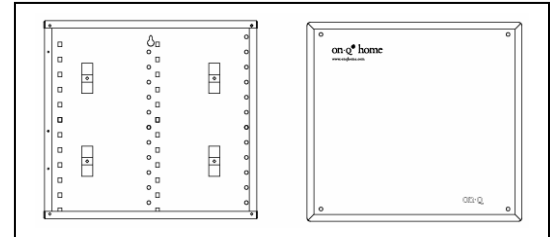

Figure 1
On-Q Home Service Center Enclosures (see *Figure 1*) centralize and protect components used to distribute telephone, data, media services, audio, security and control, and other low voltage wiring used throughout the house. The enclosure mounts onto a wall (surface mounting) or between the studs of a framed opening (recessed mounting) and is designed to accept various On-Q Home modules after installation. The On-Q Home Service Center Enclosures are UL listed as Communication Circuit Accessories. There are two (2) sizes of Value Line Enclosures; 12" (1267077) and 24" (364257).
The Service Center Enclosures include a gray powder coated steel cabinet with separate white powder coated cover. The covers all have a beveled overhang to cover the rough drywall opening when recess mounted. All cover mounting hardware is included. The cabinet has a factory installed ground lug. Enclosures include a label for recording cable-wiring information. *Figure 1 provides an example view of a 12" Enclosure.* The covers for the Value Line Enclosures without covers (-11 part numbers), are shipped after installation.